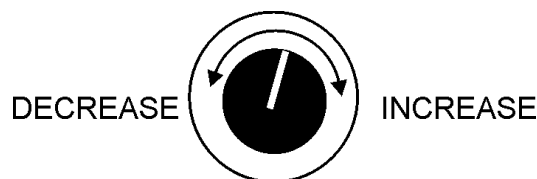

**Figure 48. Frequency Meter (Hz)**
12. The generator's frequency meter (Figure 48) should be displaying the 60 cycle output frequency in **HERTZ**.